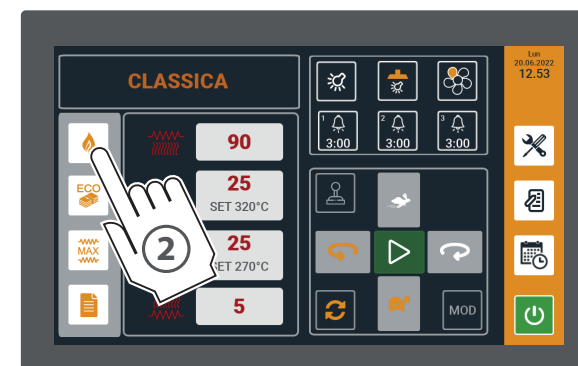

Fig.41.
► Fig.41.
- ① Touch the **ON/OFF**  key (if the oven is off);
- ② touch the pyrolysis key;
- ③ confirm pressing the  key: the heating of the cooking chamber starts until the temperature of 400 °C - 752 °F is reached, when the function stops and the oven switches off automatically without you needing to do anything. To block the function in advance, press the pyrolysis key again or turn the oven off with the ON/OFF key;